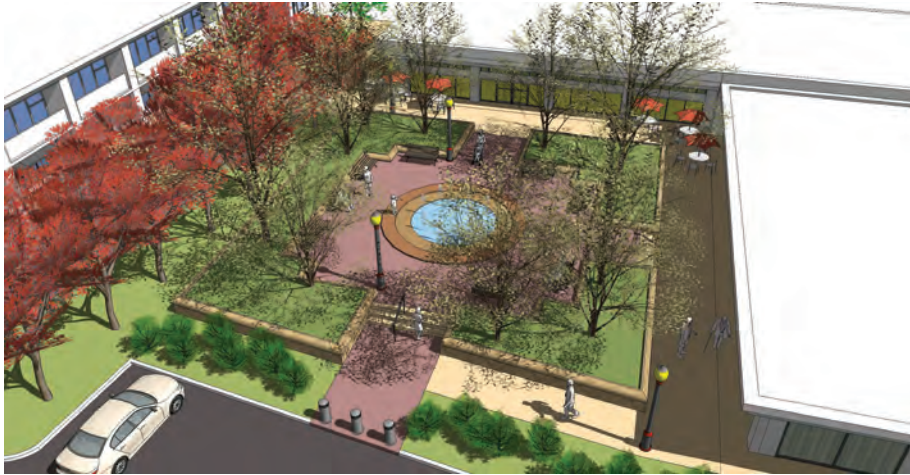

Fig. 10-19: Birds-eye view of the plaza
4. Adjust the model view to be looking down and focusing on the plaza (Fig. 10-19).